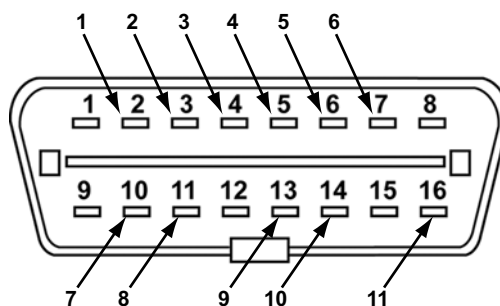

Figure A-1 Data link connector
- Test the terminal voltages using a voltmeter. Figure A-1 maps the data link connector. Refer to Table A-1 for corresponding voltages.